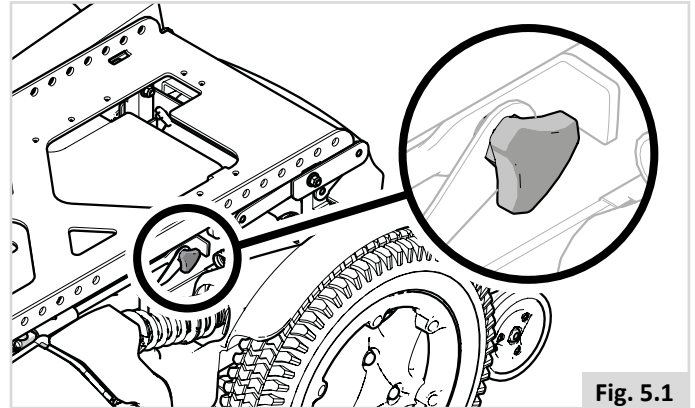

Fig. 5.1
- Ensure that the seat interface knobs are tight and secure (Fig. 5.1).